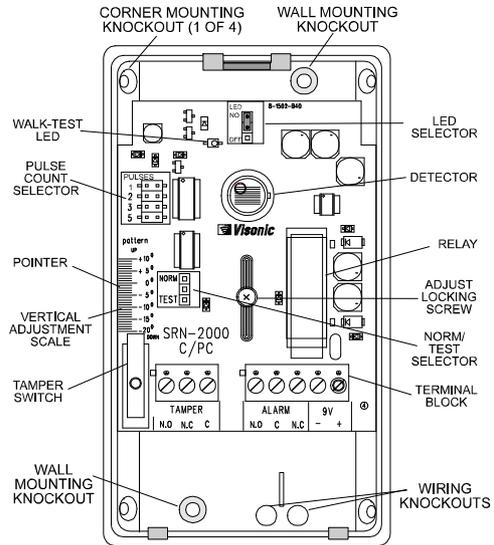

Figure 8. SRN-2000C/PC, Inside View
- The **SRN-2000C/PC-E** and **-EB** have two open collector transistor alarm outputs (see Fig. 8). The **ALARM (-)** terminal provides switched negative voltage on alarm and can be used to trigger transmitters activated by a negative pulse. The **ALARM (+)** terminal provides switched positive voltage on alarm and can be used to trigger transmitters activated by a positive pulse. Connect the transmitter trigger input to either: **ALARM (+)** and **9V (-)** terminals (positive trigger), or **ALARM (-)** and **9V (+)** terminals (negative trigger).